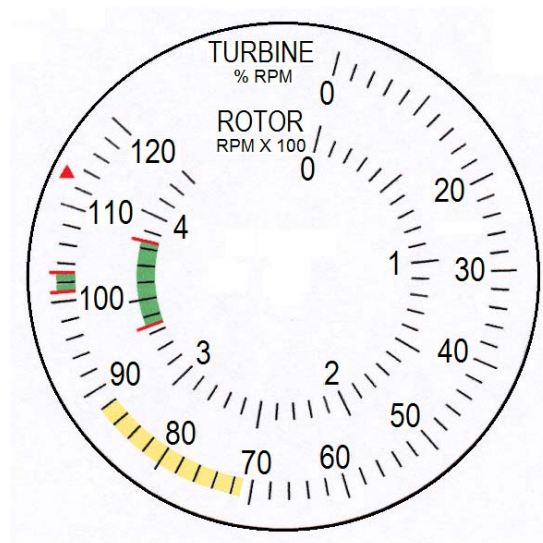

Figure 1. TH-28/480 Dual Tach - Aircraft Not Equipped With Increased RPM Kit, P/N 4230002
- 6.4.1 Apply a yellow arc range marking on the face glass of the dual tachometer that corresponds from 71% N₂ to 88% N₂ (TURBINE % RPM). Refer to paragraph 6.5 for sources of range marking decals. Refer to Figures 1, 2, or 3 for the location of the range marking.